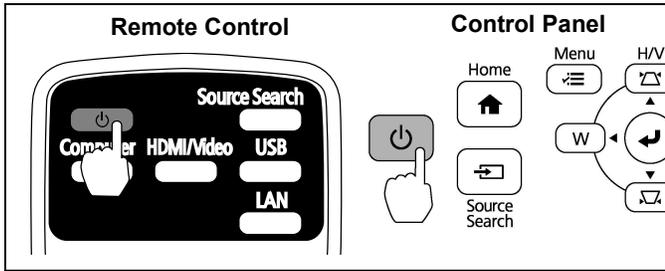

Figure 15
1. Press **POWER** button on the remote control or projector control panel. (See Figure 15)